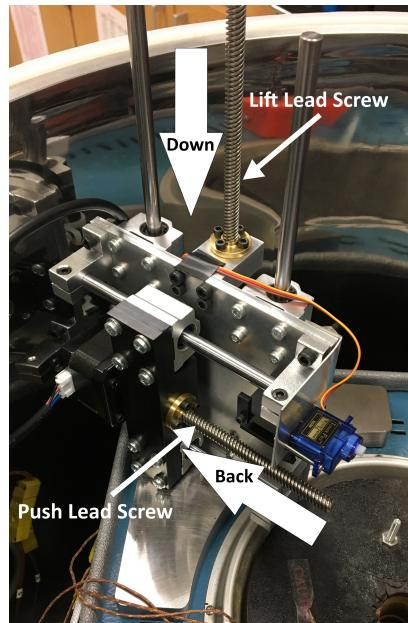

Figure 15: The shutdown position for the ARIA
11. Twist both of the ARIA lead screws by hand such that the mounting plate is all the way down and touching the base plate and the push block all the way back and is touching the horizontal stepper motor. (This is the shutdown position. See Figure 15)